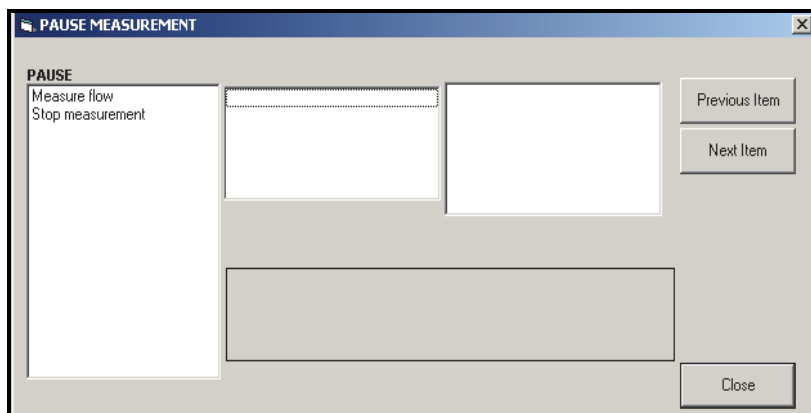

Figure 18 The *Pause Measurement* Window
2. Expand the *Edit Functions* option, and double-click on the *Pause Measurement* entry. A window opens similar to Figure 18.